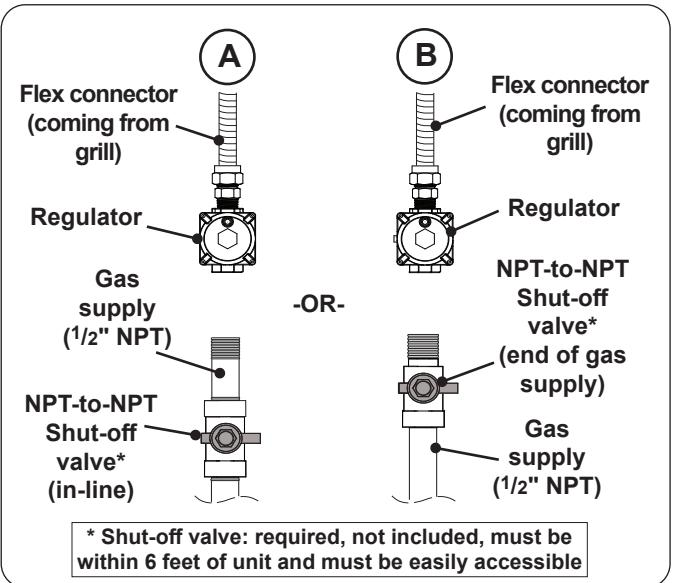

Fig. 28-3 Household propane & natural gas diagram
- Connect the regulator (on end of flex connector) to the gas supply (1/2" NPT) OR shut-off valve (1/2" NPT) using a pipe joint compound resistant to all gases (see Fig. 28-3, A or B). Tighten securely.